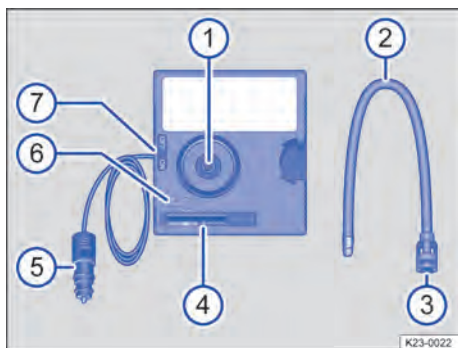
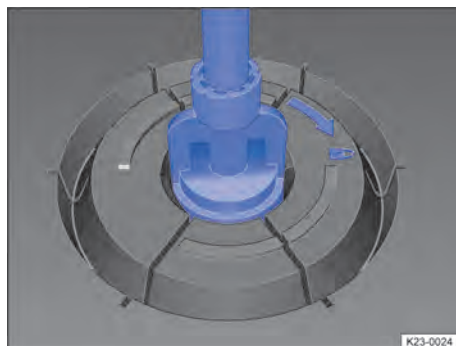
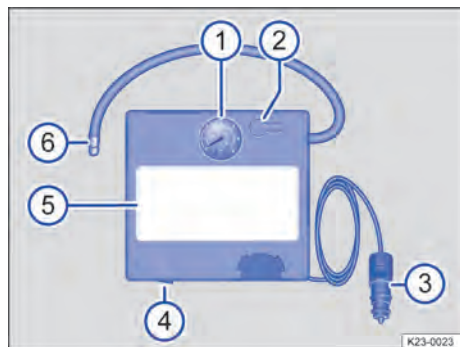

Fig. 234 Compressor in the breakdown set (illustration).
Fig. 235 Connecting the tyre filler hose.
Fig. 236 Compressor in the breakdown set (illustration).
1. Remove the tyre filler hose → Fig. 234 ② from the rear of the compressor.
2. Insert the tyre filler hose → Fig. 234 ② with the wing nut ③ into the mount for the tyre filler hose ① so that the wing nut is pointing to ⚙.
3. Turn the wing nut → Fig. 234 ③ in clockwise direction until the wing nut is pointing to ⚙ → Fig. 235.
4. Screw the tyre filler hose → Fig. 234 ② of the compressor tightly onto the tyre valve.
6. Insert the 12-volt plug → Fig. 234 ⑤ into one of the vehicle's 12-volt sockets → page 234.
7. Switch on the compressor with the ON/OFF switch → Fig. 234 ⑦.
1. Screw the tyre filler hose → Fig. 236 ⑥ of the compressor tightly onto the tyre valve.
3. Insert the 12-volt plug → Fig. 236 ③ into one of the vehicle's 12-volt sockets → page 234.
4. Switch on the compressor with the ON/OFF switch → Fig. 236 ④.
5. Run the compressor until the pressure has reached 2.0 – 2.5 bar (29 – 36 psi/200 – 250 kPa). **Maximum running time: 10 minutes** → ①.
2. Reconnect the tyre filler hose → Fig. 234 ① or → Fig. 236 ⑥ and read the tyre pressure on the tyre pressure display → Fig. 234 ④ or → Fig. 236 ②.